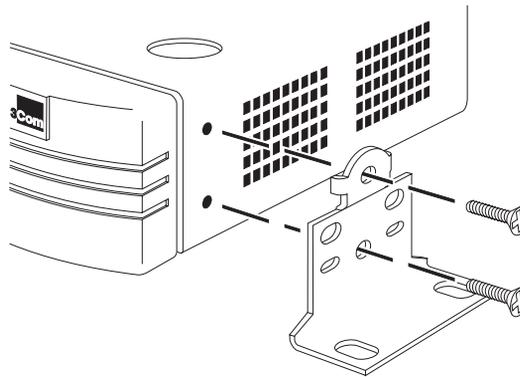

Figure 3-3 Locating the Brackets for Wall Mounting One Hub
- 2 Locate a mounting bracket over the mounting holes on one side of the hub, as shown in Figure 3-3.